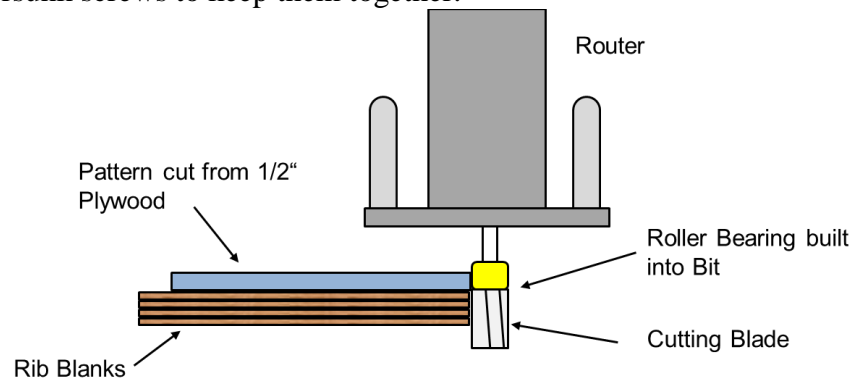

Figure 32: Cutting Ribs with a Router and a Pattern Bit
- *Router*: This method is pretty slick. Use the templates to cut a single pattern out of heftier plywood (~half inch or so), then put the pattern on top of a blank and use a router with a pattern bit (Figure 32). Join the pattern and the rib blank(s) with a pair of countersunk screws to keep them together.